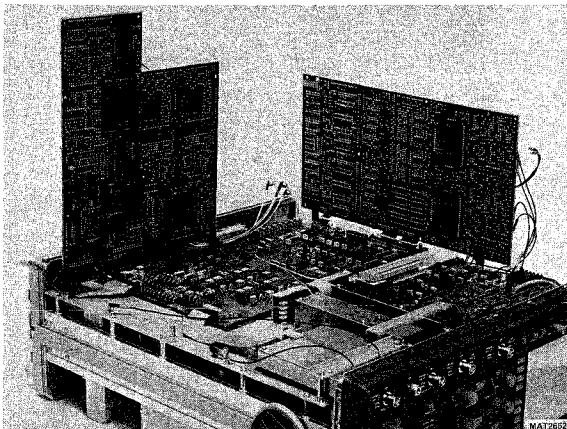

Figure 10.3 Access to the management unit and the CCD logic unit.
To get access to the management unit A25 and the CCD logic unit A26 the P2 CCD unit A33 and the vertical signal unit A32 can be turned up as shown in figure 10.3.
- Turn the unit up and place it on the two supports as shown in figure 10.3.